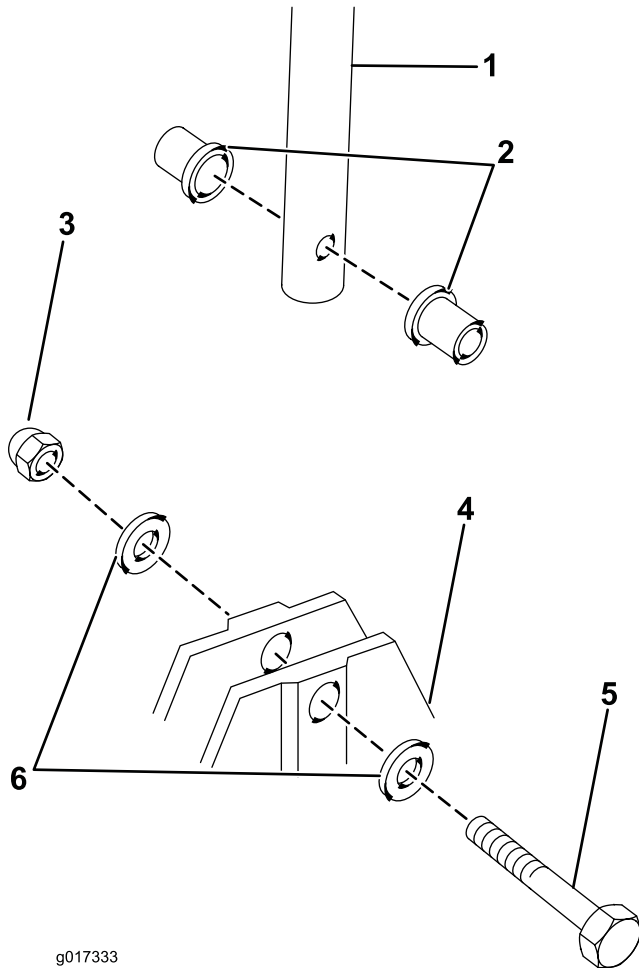

Figure 3
1. Slide 2 bushes into the frame (Figure 3).
2. Place the lower handle between the bushes and secure it with 1 handlebar bolt, 2 washers, and 1 nut (Figure 3).